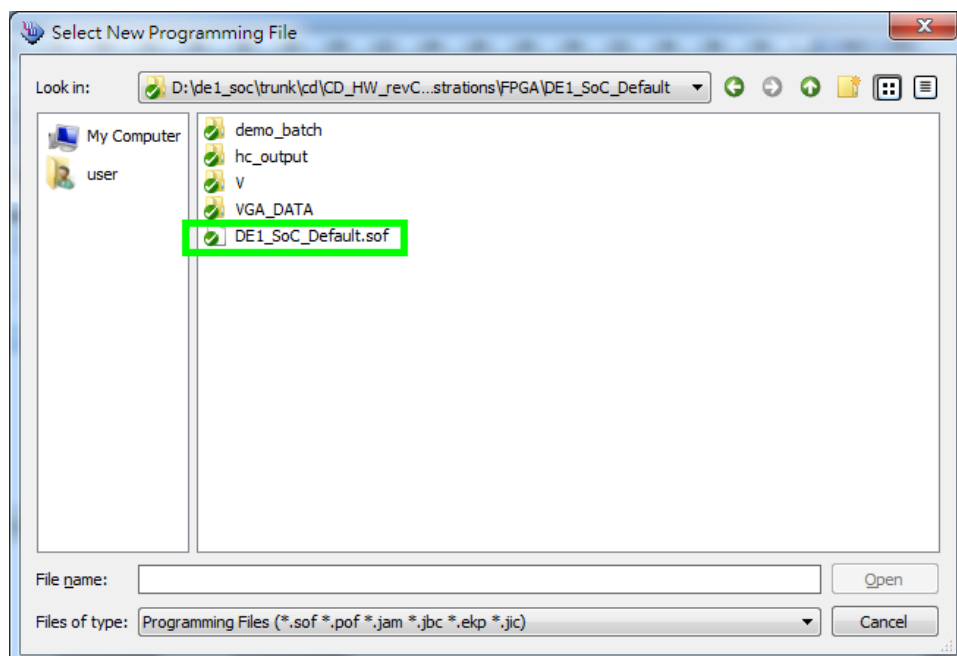

Figure 3-7 Select the .sof file to be programmed into the FPGA device
5. Select the .sof file to be programmed, as shown in **Figure 3-7**.